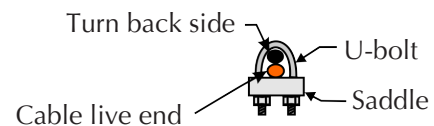

FIG.9
4. Fasten cable clamps as typical cable clamp installation (Fig.9) Cable should be relatively snug.
3. Fasten cable clamps 2 per end and as per typical cable clamp installation (Fig.9). Cable should be relatively snug.
3. Install and fasten cable clamps 2 per end as per Fig.9. Cable should be relatively snug.